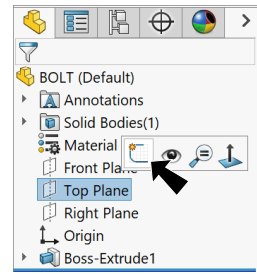

Fig. 5
Step 1. Click **Top Plane**  in the Feature Manager and click **Sketch**  on the context toolbar, **Fig. 5**.